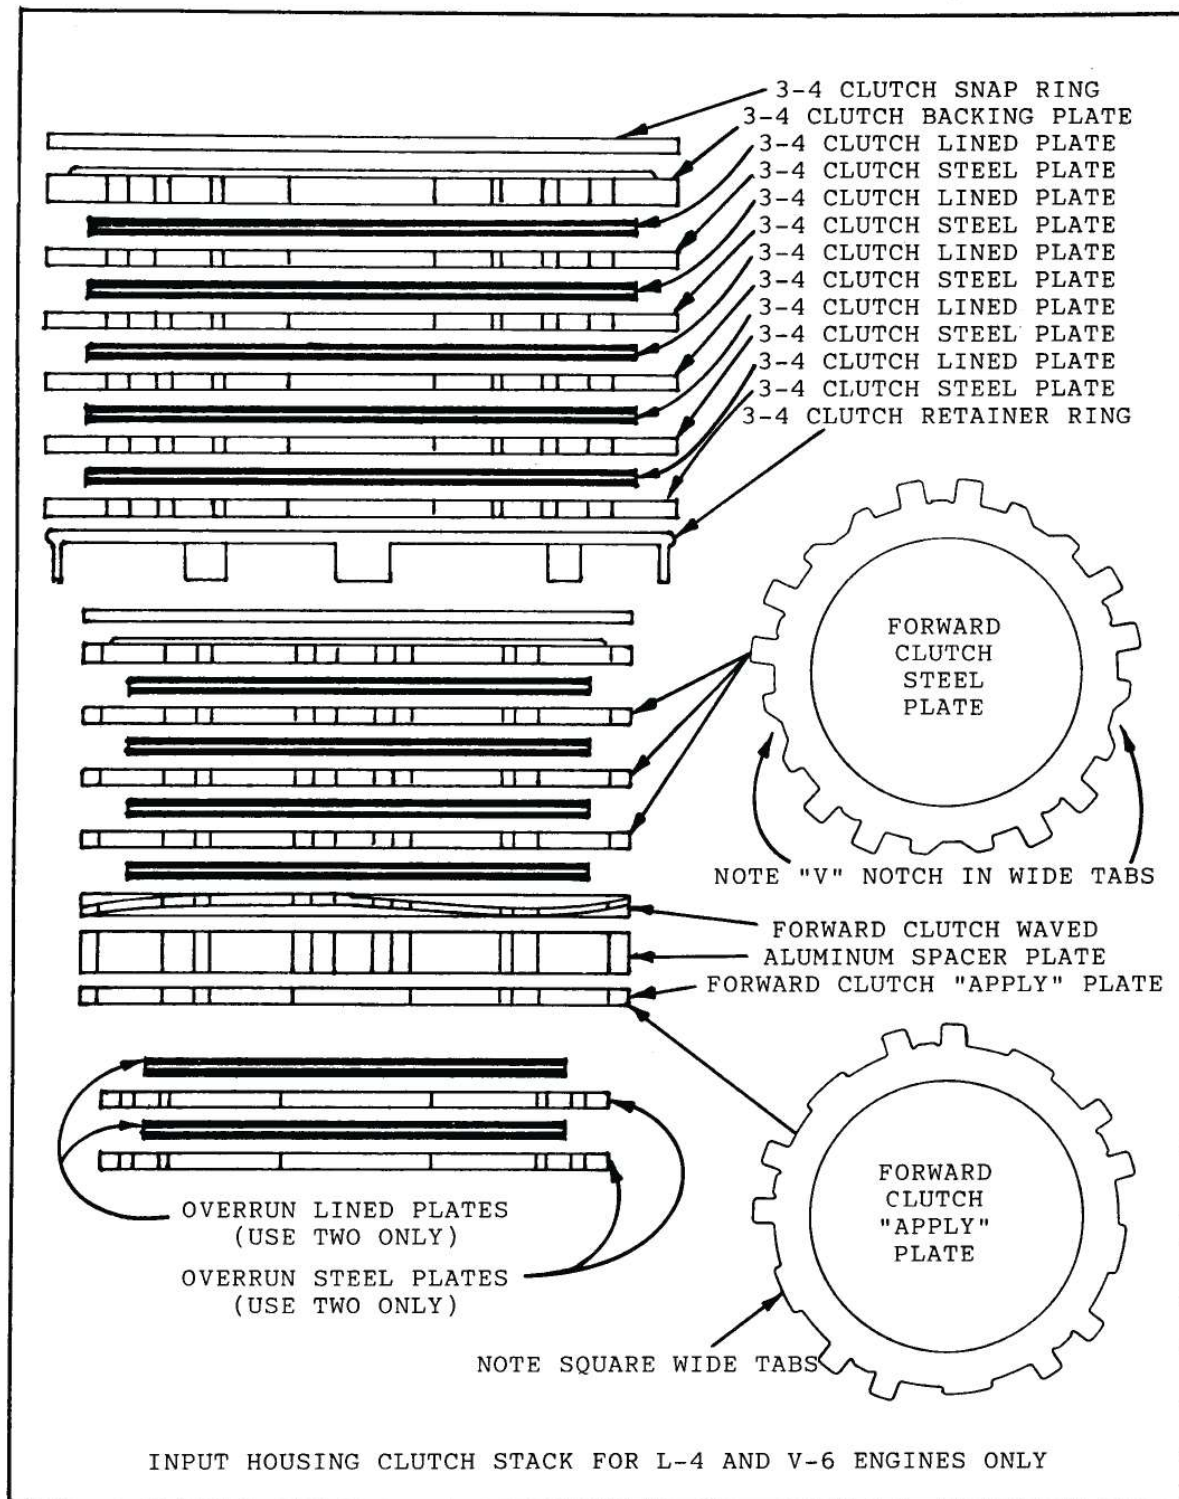

Figure 79
3. The overrun clutch requires 2 steel plates, and 2 lined plates. Start the pack with a steel plate and alternate with lined plate, as shown in Figure 79.
NOTE: A forward clutch which requires 5 lined plates will use a single thick apply plate. A forward clutch which requires 4 lined plates will use a thin apply plate and an aluminum spacer plate (See Figure 79).
4. Install spacer plate into input housing (if required). Proper assembly here is very important (See Figures 79 and 80).